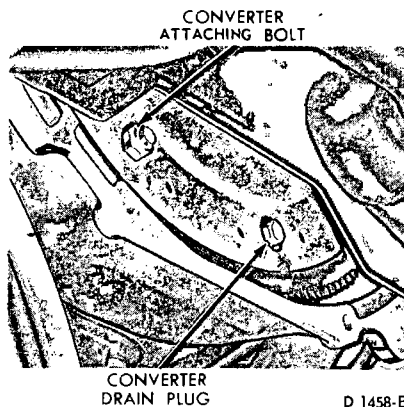

FIG. 33—Converter Drain Plug Location
2. Remove the two converter drain plugs (Fig. 33). Drain the fluid from the converter. Install the two converter drain plugs.